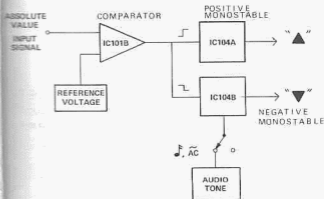

FIGURE 5-6. SIMPLIFIED BLOCK DIAGRAM OF PULSE AND CONTINUITY DETECTOR
5.3.6 A simplified block diagram of the pulse and continuity detector is shown in Figure 5-6. The absolute-value input signal is compared with a reference voltage at IC101B comparator. Integrated circuits IC104A and IC104B are edge-triggered monostable multivibrators. IC104A detects a positive-going pulse or "above reference" level and turns on the "▲" symbol and holds for 100 milliseconds. Conversely, IC104B detects a negative-going pulse or "below reference" level and turns on the "▼" symbol and holds for 100 milliseconds.